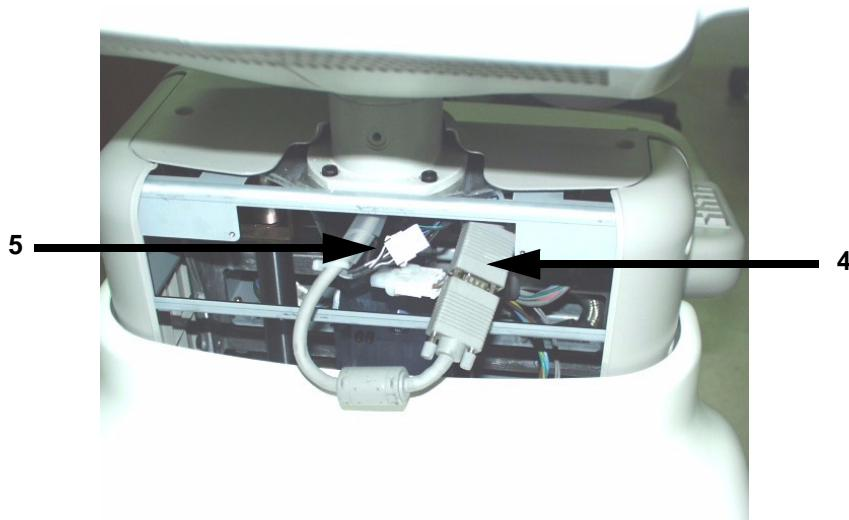

Figure 8-8 Disconnect two(2) Connectors (5-6)
- 4.) Disconnect two connectors on the other end (4-5). Refer to Figure 8-8.